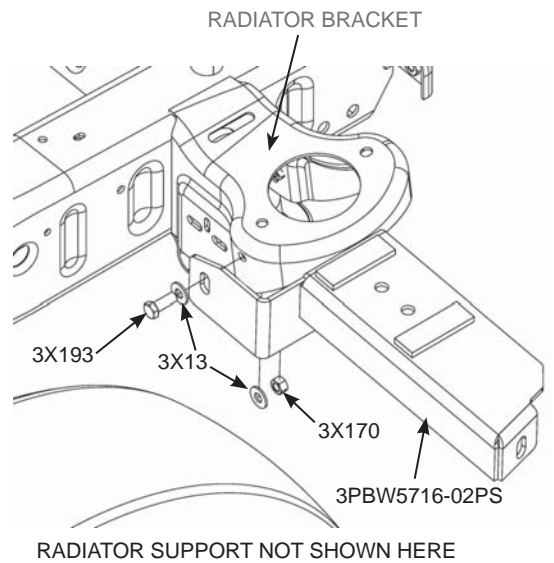

FIG. 2
- A. Fasten bracket 3PBW5716-02PS thru radiator bracket hole using 3X193 bolt, 3X13 washer and 3X170 nut. (Fig 2)